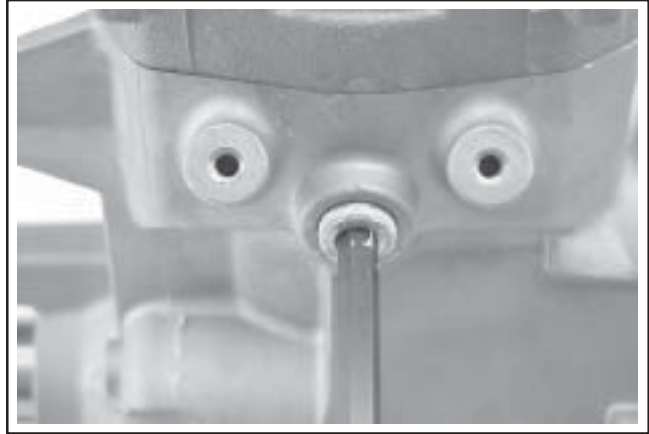

Figure 11-41. Installing Coolant Drain Plugs.
1. Reinstall the brass coolant drain plugs in the sides of the crankcase, (and also the cylinder head plugs, if removed during head servicing). Apply **pipe sealant with Teflon®** (Loctite® 59241 or equivalent) to the threads and reinstall the plugs. Torque the plugs to **13.5 N·m (120 in. lb.)**. See Figure 11-41.